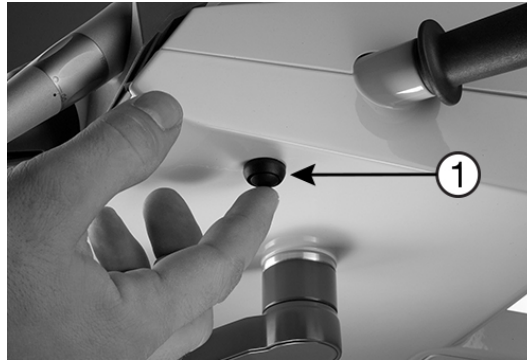

Figure 26 – Initiating selection of instrument to be used with XO Peristaltic Pump
Before the pump can be used, a designated instrument must be selected. With all instruments at rest, press the button (1) once – see Figure 26. The unit enters configuration mode and a menu will be shown on the display.
Press the configuration button (1) on Figure 26 once to exit configuration mode.